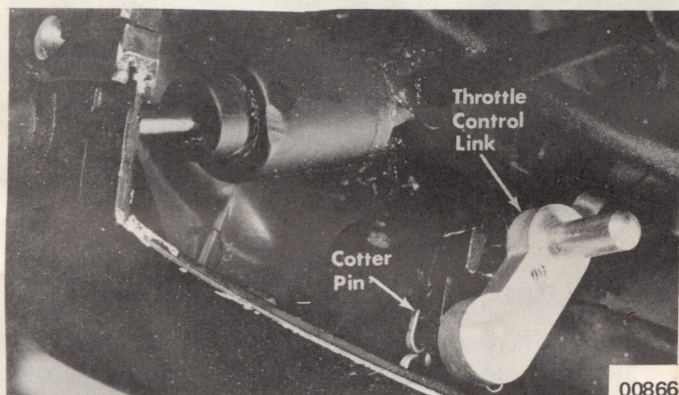

Figure 7. Installing Throttle Control Link
1. Install throttle control link assembly into throttle lever. Check that paint in throttle lever does not cause a bind. Install cotter pin and spread ends. (Figure 7)